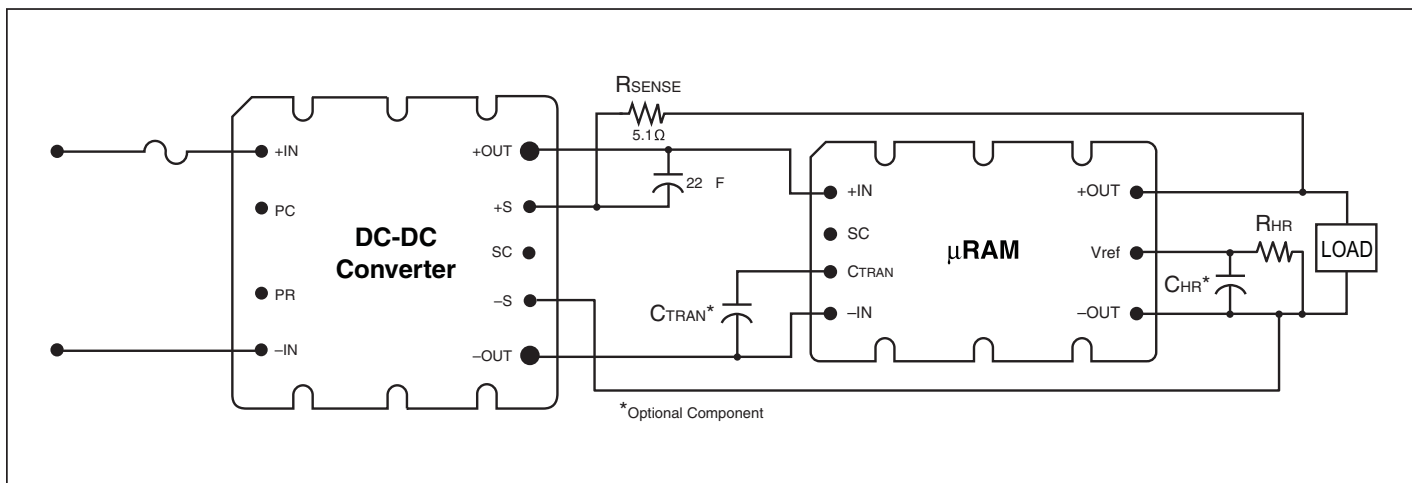
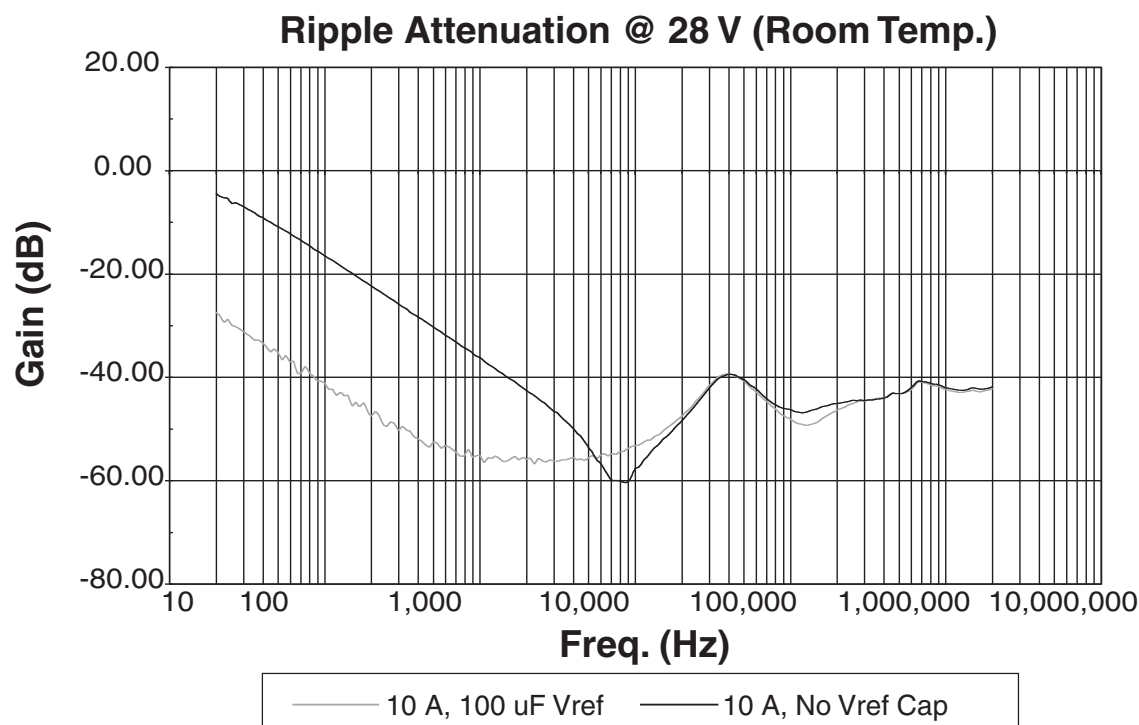

Figure 1 — Typical Configuration using Remote Sensing
Figure 3a
The MicroRAM has an internal passive filter that effectively attenuates ripple in the 50 kHz to 1 MHz range. An active filter provides attenuation from low frequency up to the 1 MHz range. The user must set the headroom voltage of the active block with the external RHR resistor to optimize performance. The MicroRAM must be connected as shown in Figures 1 or 2 depending on the load sensing method. The transient load current performance can be increased by the addition of optional CTRAN capacitance to the CTRAN pin. The low frequency ripple attenuation can be increased by addition of optional CHR capacitance to the VREF pin as shown in Figures 3a and 3b, on p. 5.
Figure 3a, 3b — Curves demonstrating the small signal attenuation performance as measured on a network analyzer with a typical module at (a) 28 V and 10 A output and (b) 5 V and 10 A. The low frequency attenuation can be enhanced by connecting a 100  $\mu$ F capacitor, CHR, to the VREF pin as shown in Figures 1 and 2.
**Figure 9 — V375A28C600B and μRAM; Input and output dynamic response no added CTRAN; 20% of 20 A rating load step of 4 A (10 A – 14 A);RHR = 178 k (Configured as in Figs. 1 & 2)**
**Figure 10 — V375A28C600B and μRAM; Input and output dynamic response CTRAN=820 μF Electrolytic; 32.5% of load step of 6.5 A (10 A – 16.5 A);RHR=178 k (Configured as in Figs. 1 & 2)**
**Figure 12 — V300B12C250B and μRAM; Input and output dynamic response no added CTRAN; 17.5% of 20 A rating load step of 3.5 A (10 A – 13.5 A); RHR=80 k (Configured as in Figs. 1 & 2)**
**Figure 13 — V300B12C250B and μRAM; Input and output dynamic response CTRAN = 820 μF Electrolytic; 30% of load step of 6 A (10 A – 16 A); RHR=80 k (Configured as in Figs. 1 & 2)**
**Figure 15 — V48C5C100B and μRAM; Input and output dynamic response no added CTRAN; 22.5% of 20 A rating load step of 4.5 A (10 A – 14.5 A); RHR=31k (Configured as in Figs. 1 & 2)**
**Figure 16 — V48C5C100B and μRAM; Input and output dynamic response CTRAN=820 μF Electrolytic; 35% of load step of 7 A (10 A – 17 A); RHR=31 k (Configured as in Figs. 1 & 2)**